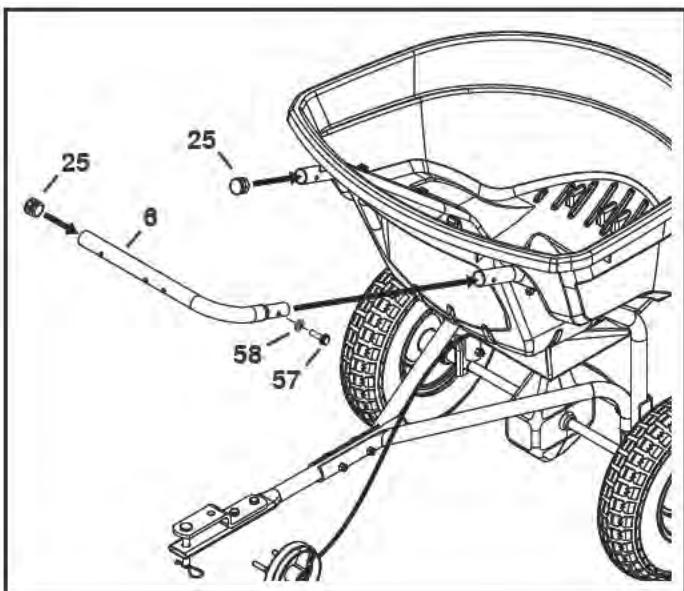

FIGURE 5
- Insert the control cable into the hole in the control lever (23).
STEP 5: (SEE FIGURE 5)
- Insert the control tube (6) into the left hopper support tube and secure it in place with the 5/16" x 3/4" lag screw (57) and 5/16" lock washer (58).
- Press tube plugs (25) into the right hopper support tube and the control tube (6).